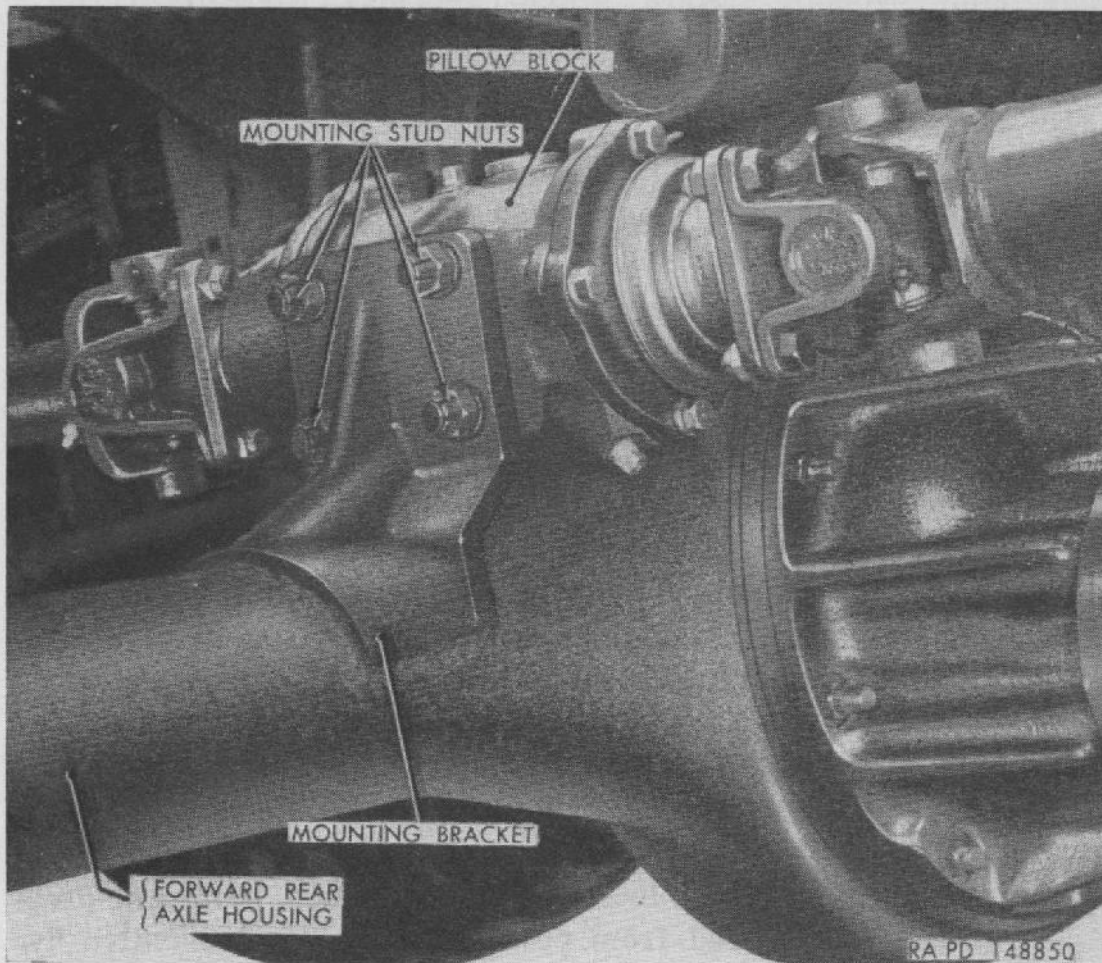

Figure 126. Pillow block installed.
end. Remove four mounting stud nuts and split tapered dowels (fig. 126) attaching pillow block to mounting bracket; then remove pillow block.
c. **PILLOW BLOCK INSTALLATION.** Position pillow block assembly on inside (differential side) of mounting bracket (fig. 126) with drain plug toward front. Install four tapered split dowels and four mounting stud nuts. Tighten nuts to 48-64 pound-feet torque. Install propeller shafts (par. 213). Lubricate pillow block and propeller shaft universal joints (par. 57).